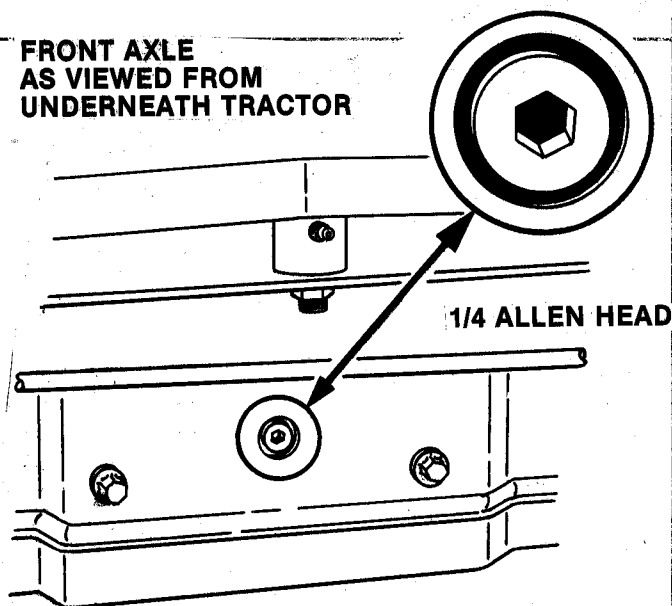

FIG. 9 - ENGINE OIL DRAIN
- **ENGINE OIL:** Change crankcase oil. Refer to engine owner's manual and Fig.9.